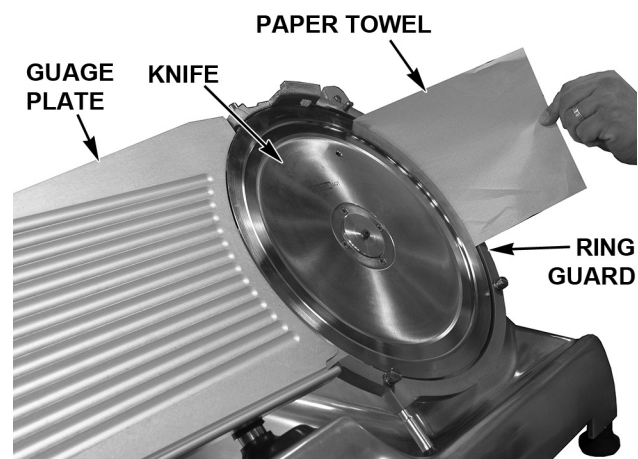

Fig. 11
- Clean completely around the Ring Guard by working a moistened, folded paper towel between the Ring Guard and the Knife (Fig. 11).